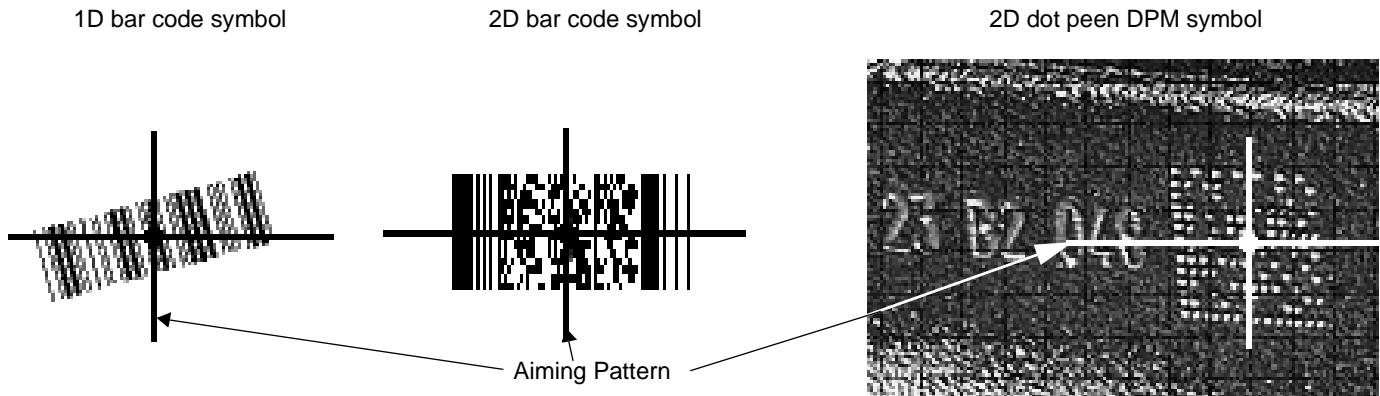

Figure 2-5 Scanning Orientation with Imager Aiming Pattern
- ✓ **NOTE** Scanning Direct Part Mark (DPM) bar codes with the DS3508-DP20005R digital scanner: Due to the reflective nature of some surfaces used with DPM bar codes (see Figure 2-5), it may be necessary to tilt the scanner at an angle relative to the target (Motorola recommends 25-45 degrees). For example, when scanning a 15 mil dot peen Datamatrix bar code marked on an aluminum surface with the DS3508-DP20005R, present the target between two and three inches from the nose of the scanner, and tilt the scanner at a 30 degree angle.